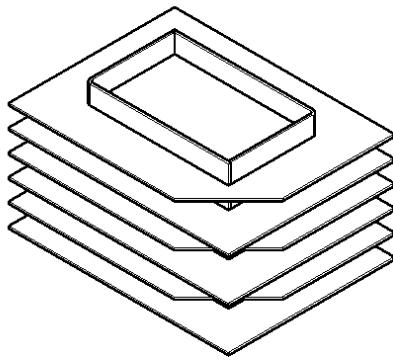

Fig. 4
- Empty and clean condensing trap (Fig. 4)